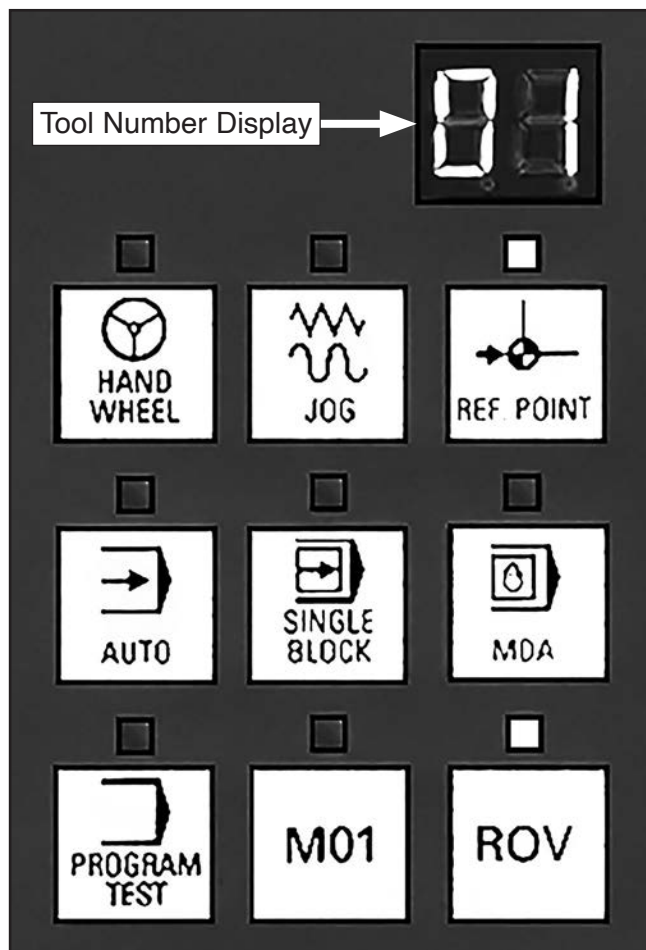

Figure 76. MCP operating mode area.
- On MCP, REF POINT and ROV lights will illuminate, and tool number display will show "01" (see **Figure 76**).